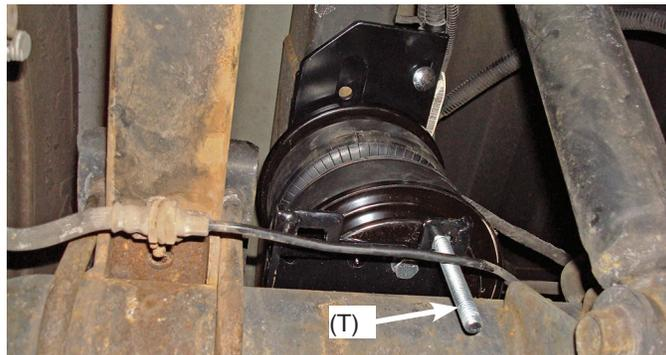

fig. 13
1. Raise the axle or lower the frame until the lower brackets touch the axle (figs.13 & 14).